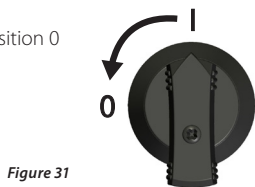

Figure 31
2. Set the DC circuit breaker on the inverter to position 0 (Figure 31).